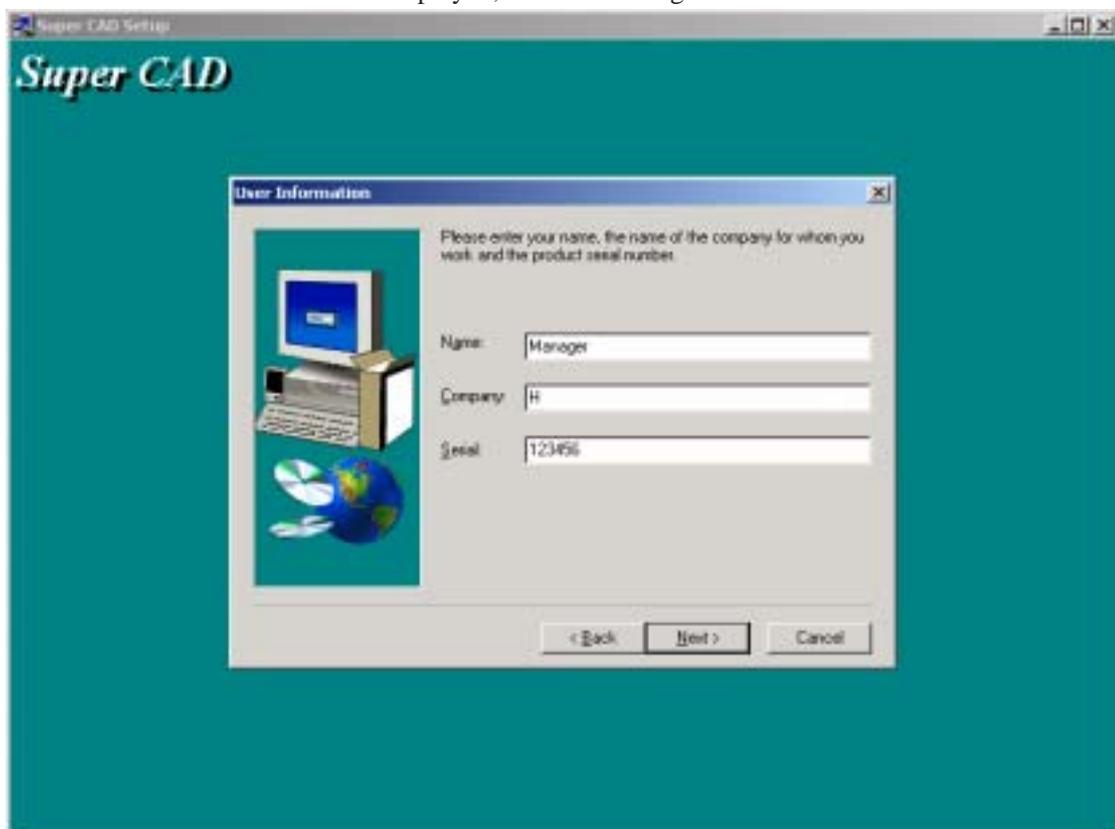

Fig 1.3 User Information Window
3. If you agree with the above License Agreement, click [Yes] to enter the next step. The User Information Window will be displayed, as shown in Fig. 1.3.
If you click [BACK], the previous installation window will appear, as shown in Fig. 1.3